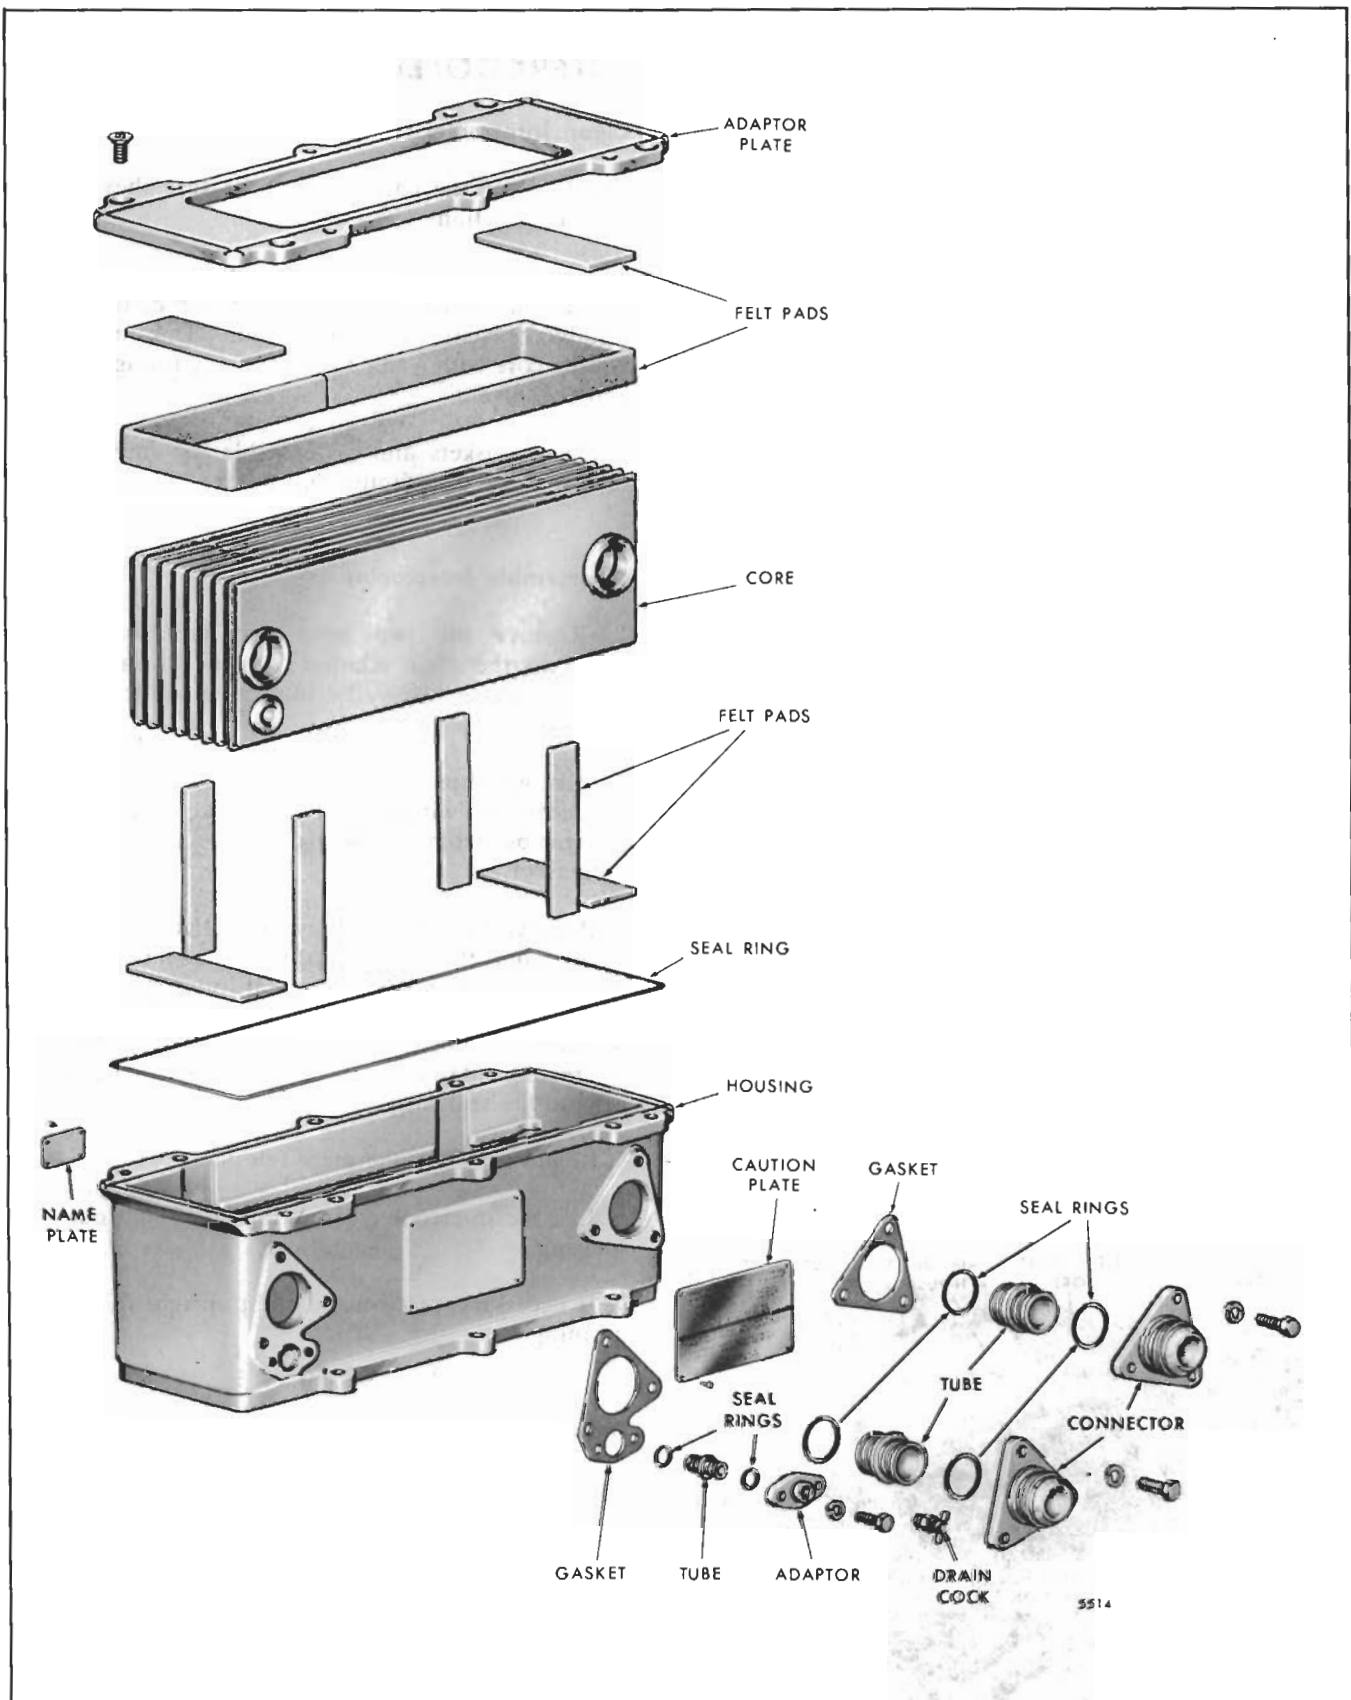

Fig. 2 - Intercooler Details and Relative Location of Parts
1. Remove the two bolts and lock washers and withdraw the drain adaptor with the drain cock from the drain hole below the intercooler outlet connector (Fig. 2).